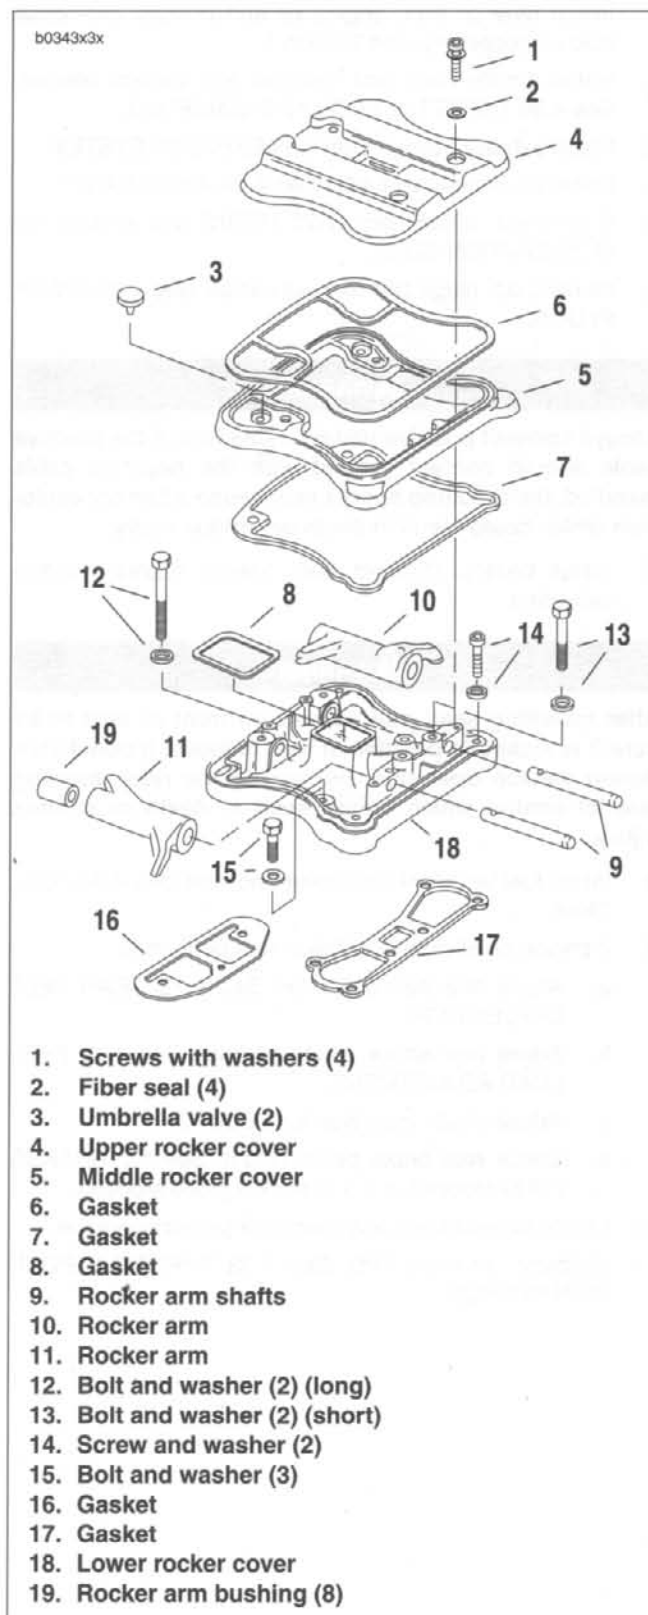

Figure 3-6. Rocker Arm Cover
1. See Figure 3-6. Remove screws with washers (1) and fiber seals (2). Discard fiber seals.
9. See Figure 3-6. Remove rocker arms (10, 11); mark them for reassembly in their original locations.